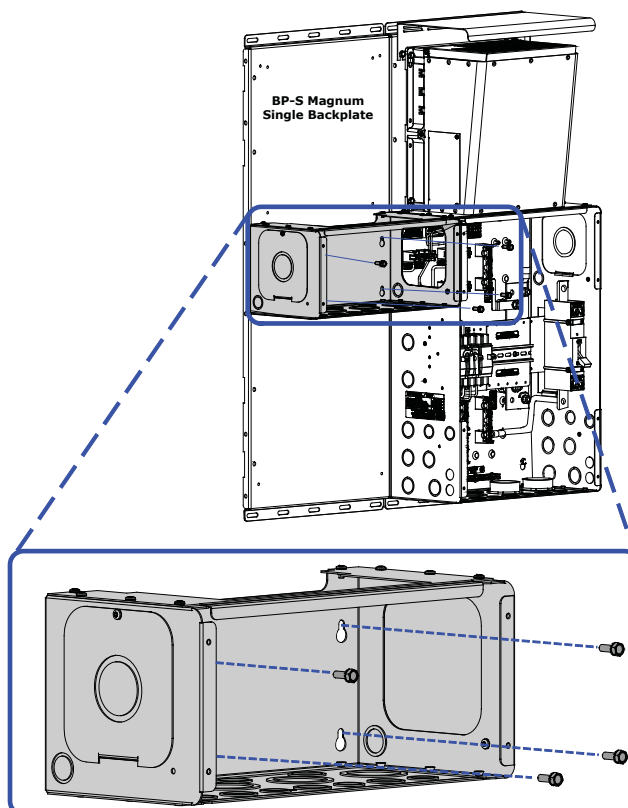

Figure 3-6, Mounting the MPX to a Backplate / Wall
2. Hang the MP enclosure and attached MPX onto the eight bolts using each unit's keyhole slots (see Figure 3-6).